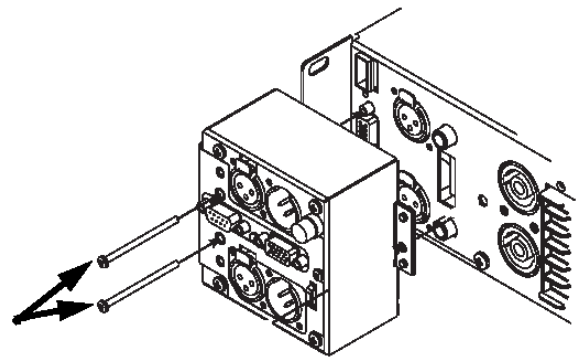

Figure 1. The problems may occur when these two screws are tightened.
When a DSP-4 unit is mounted directly to a QSC single DataPort equipped amplifier and the two long screws shown in Figure 1 are tightened, the torque bends the two internal PCB boards slightly. This causes the leads from U7 (a 20-pin DIP microcontroller) to touch the top of capacitors C42 and C45, causing communication and audio problems. To correct this inadvertent connection, trim all 20 of U7's lead pins.
When mounted directly to a QSC single DataPort-equipped amplifier and the two #4-40 screws shown in Figure 1 are tightened, the DSP-4 may exhibit any of these problems:
1. Mount the DSP-4 to the rear of a QSC CX, DCA, PL2, or SRA Series amplifier equipped with a single DataPort (Figure 1).